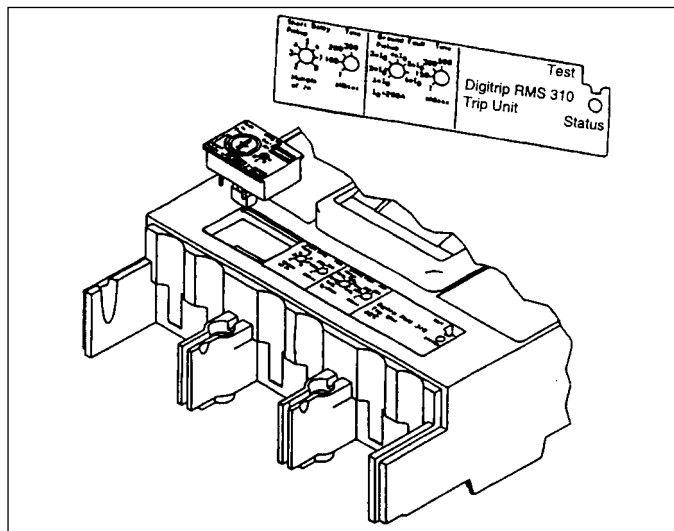

Figure 2-11 Rating Plug Installation
- a. Position the rating plug as shown in Figure 2-11.